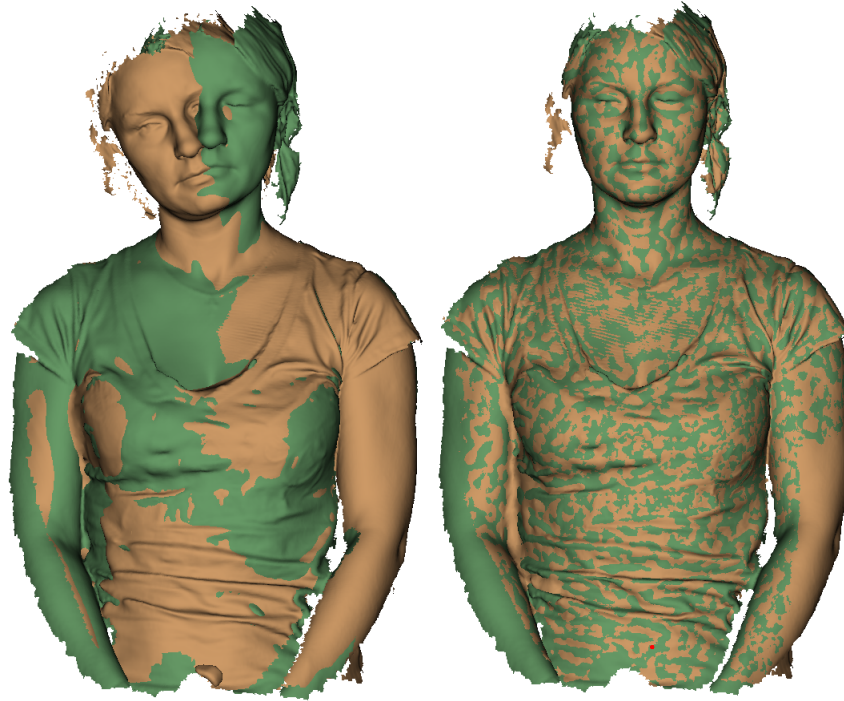

Figure 128: Two models after Best Fit (left) and nonrigid alignment (right).
While Best Fit (rigid) alignment can only perform such transformations as translation and rotation, the nonrigid algorithm can deform 3D data. This algorithm is intended to process so-called nonrigid objects: objects whose shapes have changed during the scan (e.g., models of animals or humans—see Figure 128, left). Keep in mind that the surface Artec Studio produces as a result of the deformation may differ from the surface of the actual object.
5. Click *Align...* The algorithm will align models by deforming one of the model (see Figure 128, right). If you are dissatisfied with the alignment results, click  and specify additional point pairs, or reposition the current pairs.